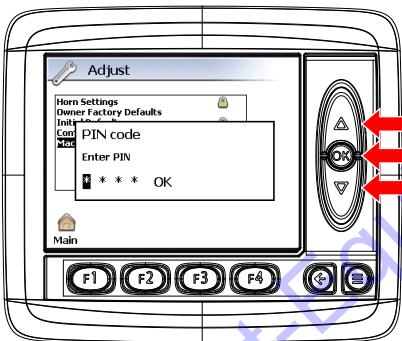

Figure 76. PIN Code Entry
4. Enter the service reset PIN code: **9563**. For each digit, press the Up and Down Arrow buttons to select a number, then press the OK button to confirm. When finished, press the OK button to submit the code. See Figure 76.